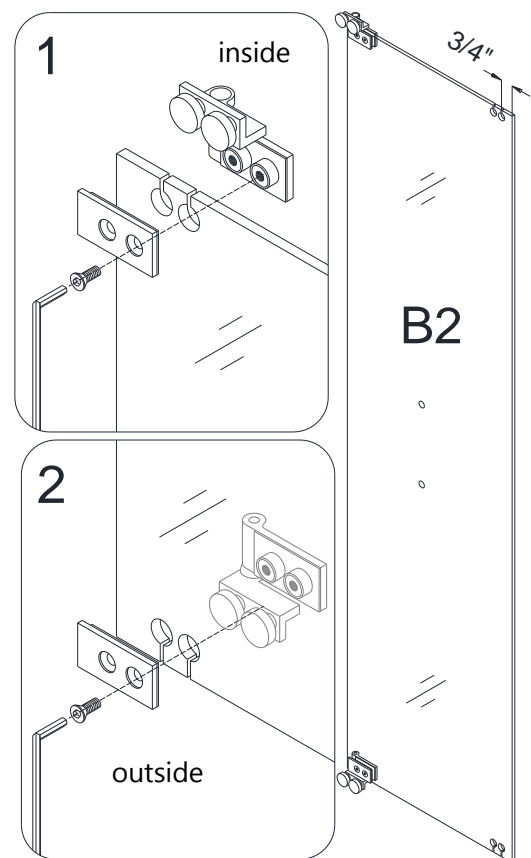
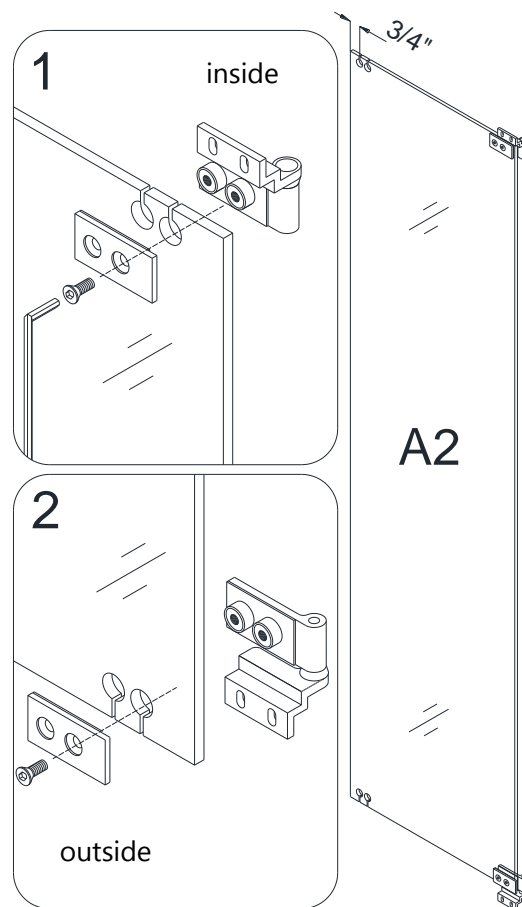
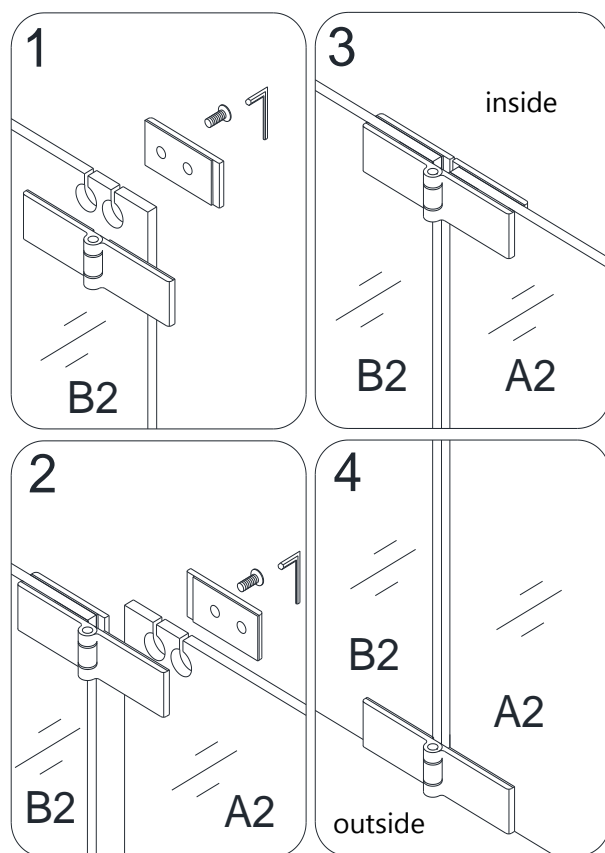
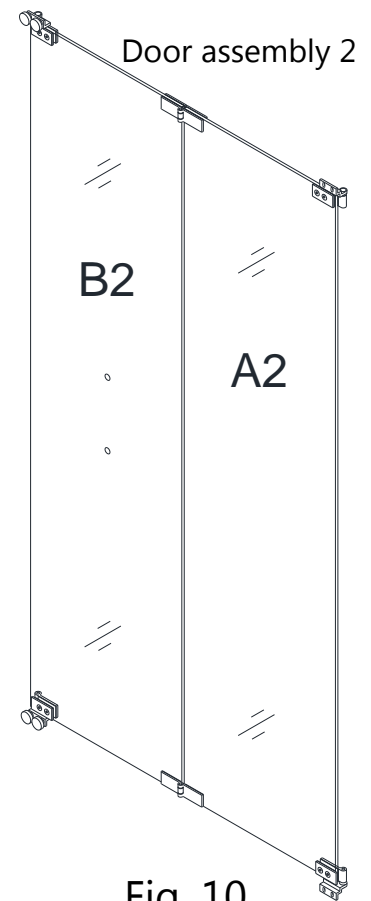

Fig. 7
Fig. 8
Fig. 9
Fig. 10
See Fig. 7 and Fig. 10 for details.
See Fig. 8 and Fig. 10 for details.
See Fig. 9 and Fig. 10 for details.
12. Slide the pre-installed **Door assembly (#02)** (as shown in Fig. 10) into the channel of the **Guide rails (#03)** from the right side.